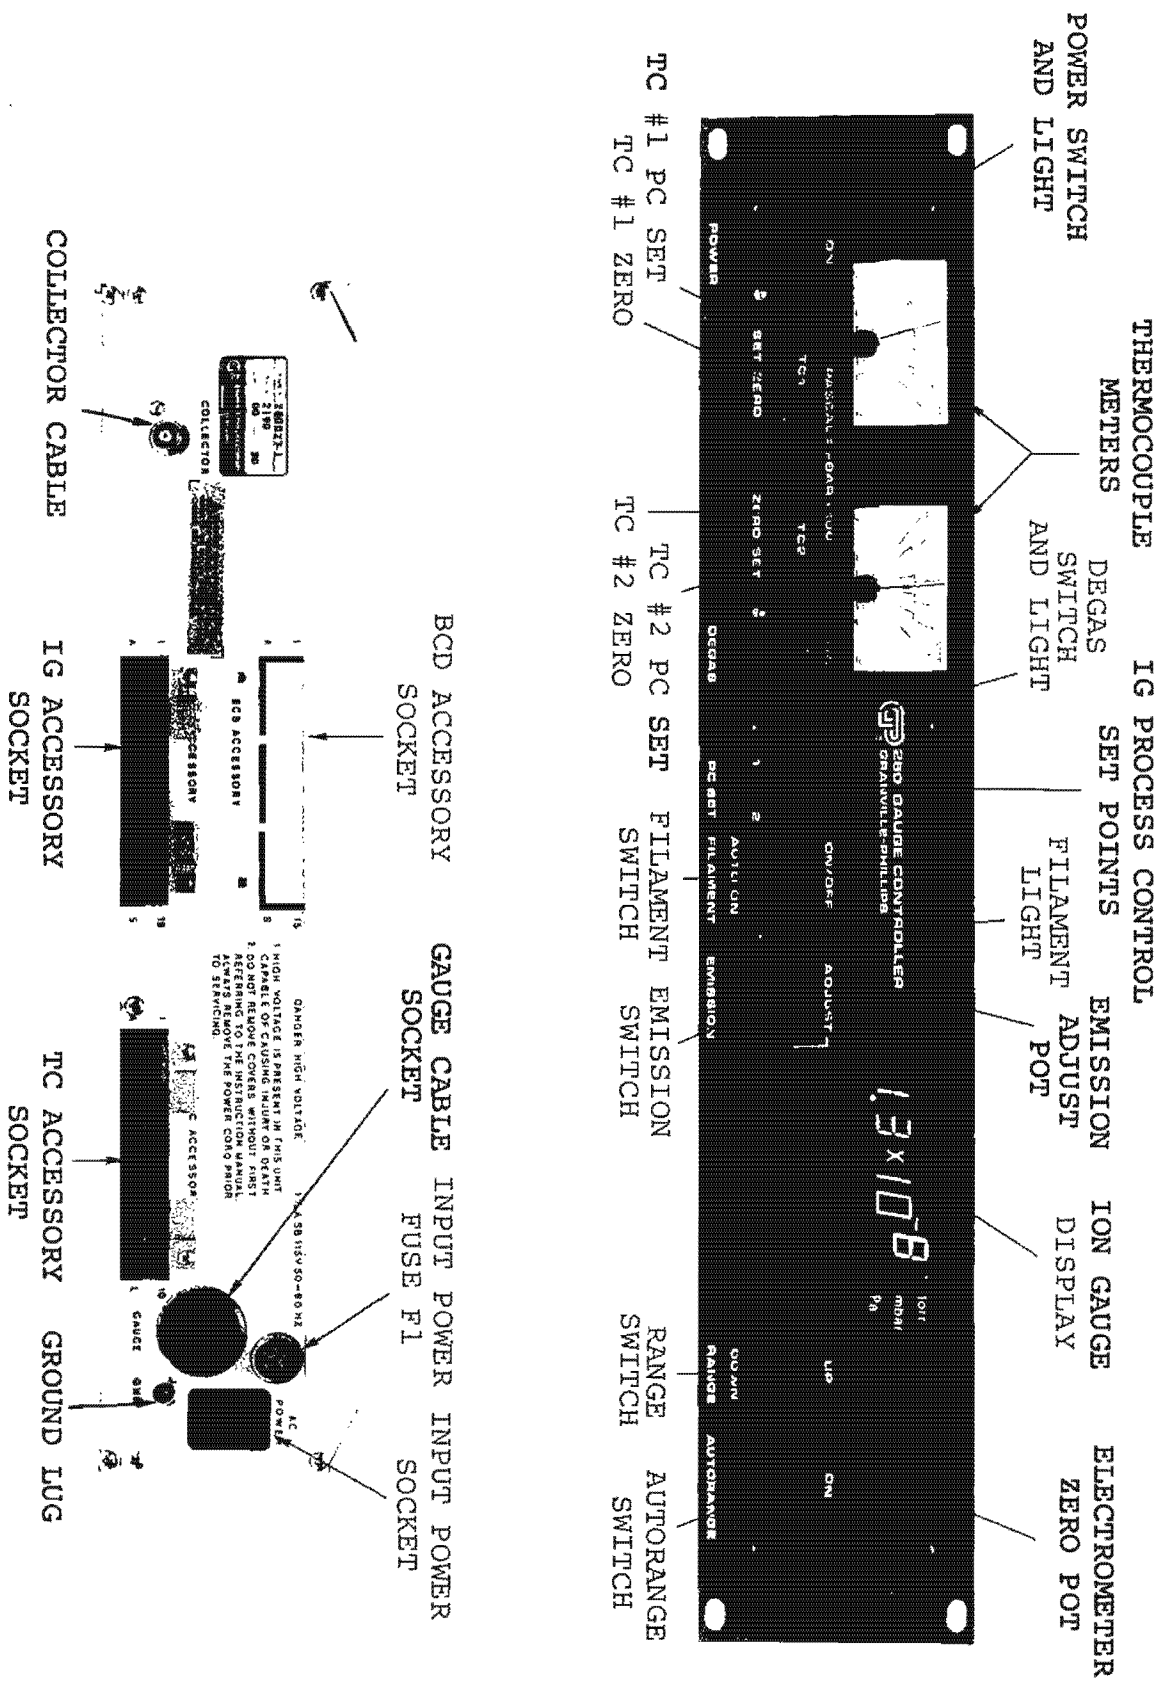

FIG. 4-1 LOCATION OF CONTROLS (FRONT & REAR PANELS)
4.1 Purpose of Controls (Left to right) (Refer to Fig. 4-1)
5. Observe that the displayed reading should be 0.0×10^{-8} with the decimal point flashing. If it is not then adjust the electrometer zero for flashing decimal point. See Fig. 4-1 for location of this recessed front panel control.